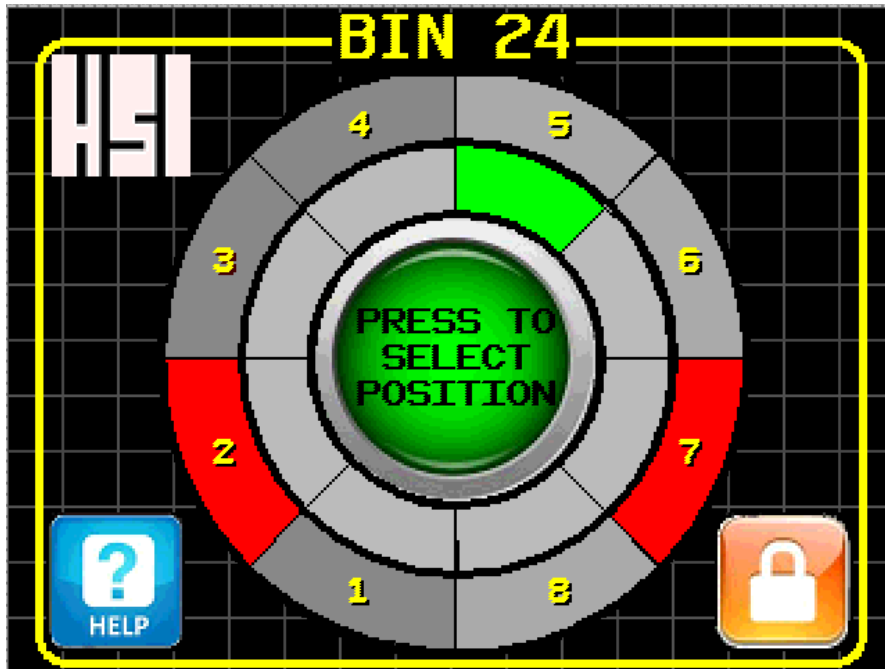

Figure 3.4
- To unlock or lock a position, press the lock graphic on the lower right-hand side of the normal operation screen (Figure 3.4).